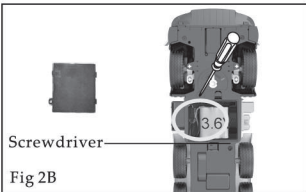

Fig 2B
2. Please screw out the cover at the back of car by screwdriver, open the cover as the arrow showed, insert 1pcs of 3.6 V AA battery, then screw the cover (Fig 2B).